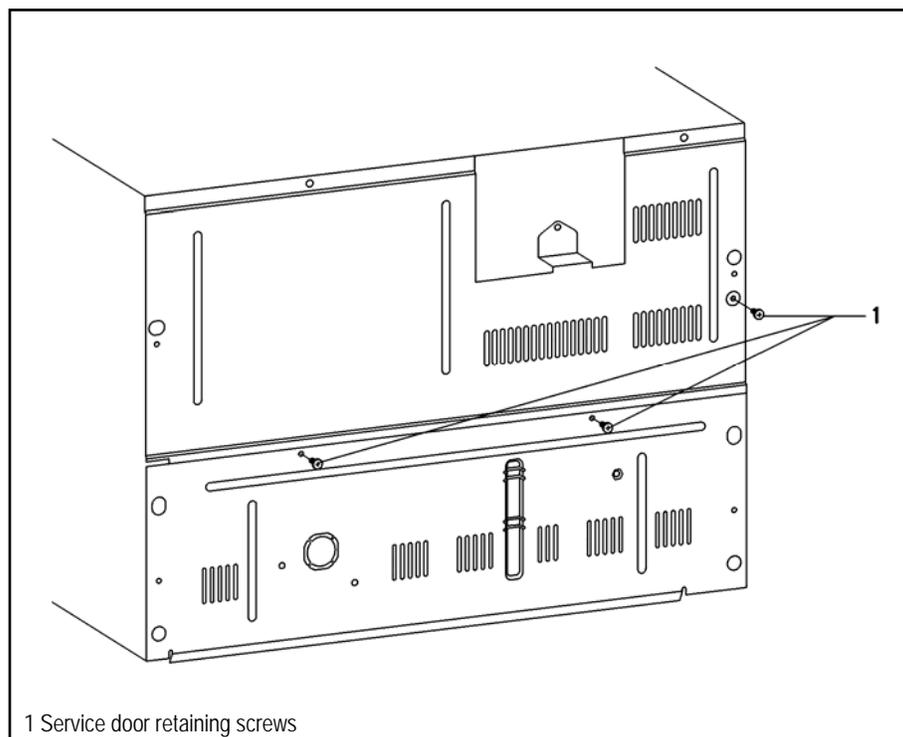

Figure 5-34: CVA4070 Rear Service Door Screw Removal
4. Remove the service door retaining screws (Figure 5-34, Item 1).